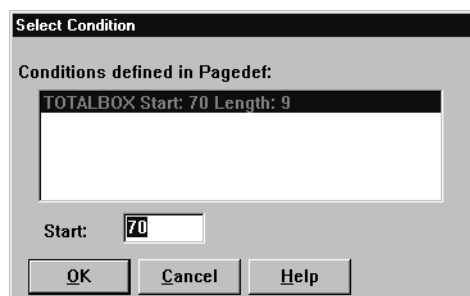

Figure 29. Select condition
15. Click on the **Cond. Reference** Icon in the toolbar and drag it down to the **R[51]** line. When you release the mouse, the **Select condition** dialog will be displayed. See Figure 29. You will be shown a list of existing conditions defined in the page definition. Click on the condition that was created earlier, **TOTALBOX**, and click **OK**.